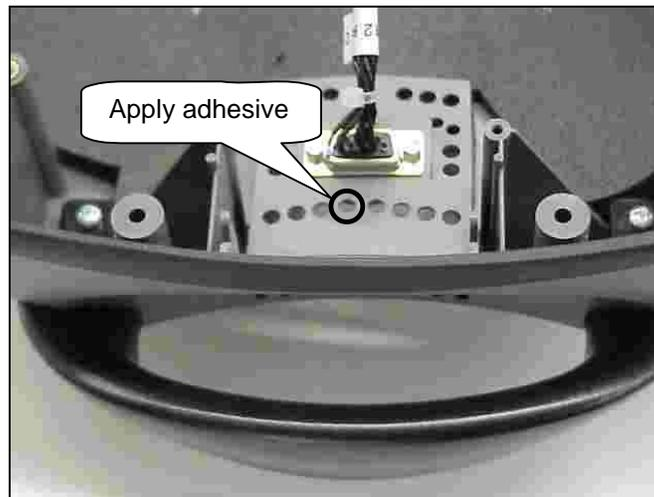

Figure 40: Bonding the Buzzer to the case.
4. To install a new buzzer, apply a ring of cyanoacrylate adhesive (Super Glue) around the inlet hole as shown in Figure 40.